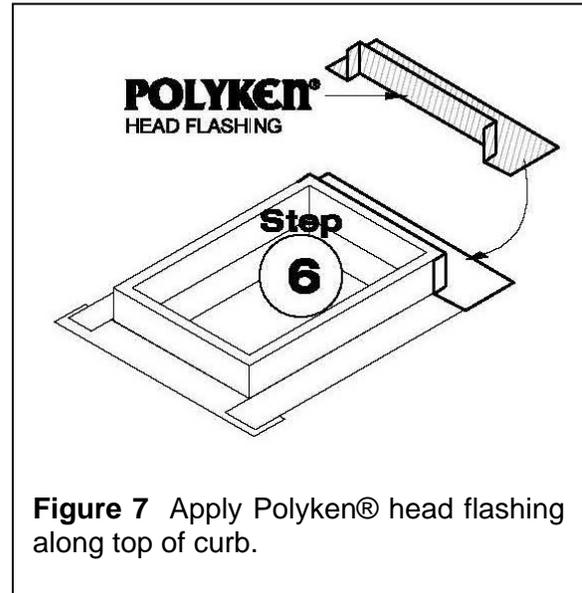

Figure 7 Apply Polyken® head flashing along top of curb.
Step 6. Apply Polyken® or Nashua® flashing strip across top of skylight curb, lapping up the vertical leg of curb and across the roof substrate. Lap the vertical ends over the ends of the side flashing tapes (see Figure 7).